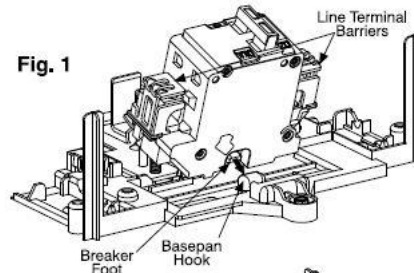
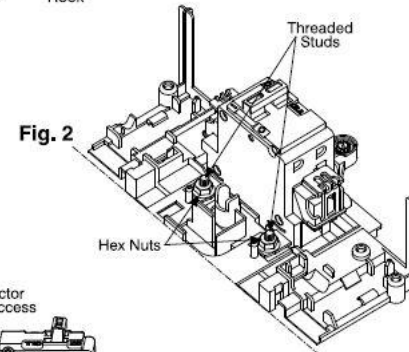

Fig. 1
Fig. 2
2. Remove Connectors from Load Center if applicable. Insert the Breaker Foot into the Basepan Hook as shown in Figure 1. Rotate the Breaker, allowing the (2) threaded studs to pass through the terminal slots as shown in Figure 2. Attach using the (2) Hex Nuts and torque to 50 lb.-in.